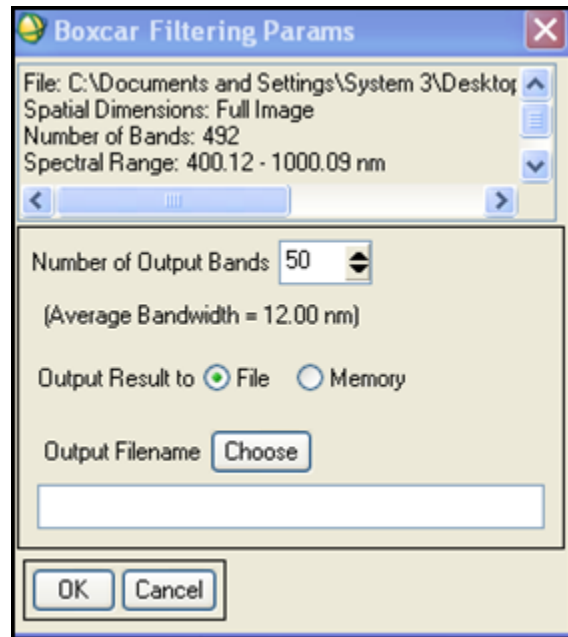

Figure 11b. Boxcar Filtering Params Box
- The Boxcar Filtering Params box opens (Figure 11b). The number you will enter determines how many bands the new data will have. A larger number will cause a smaller degree of noise filtering. Select number of output bands or use the default of 50, and then click Choose.